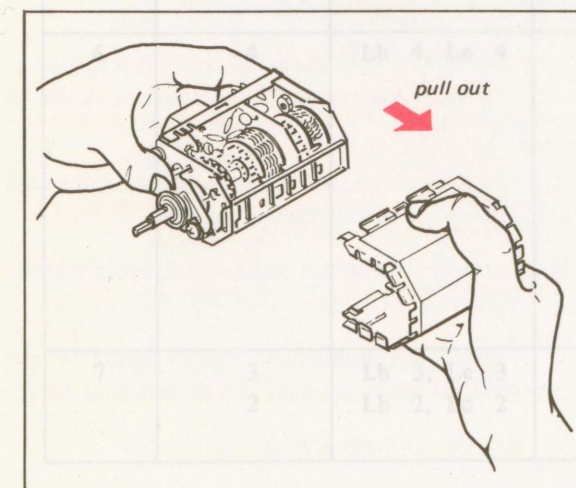

Fig. 5-3. Tuner cover removal (3)
3. Pull out the cover from the tuner case as shown in Fig. 5-3.